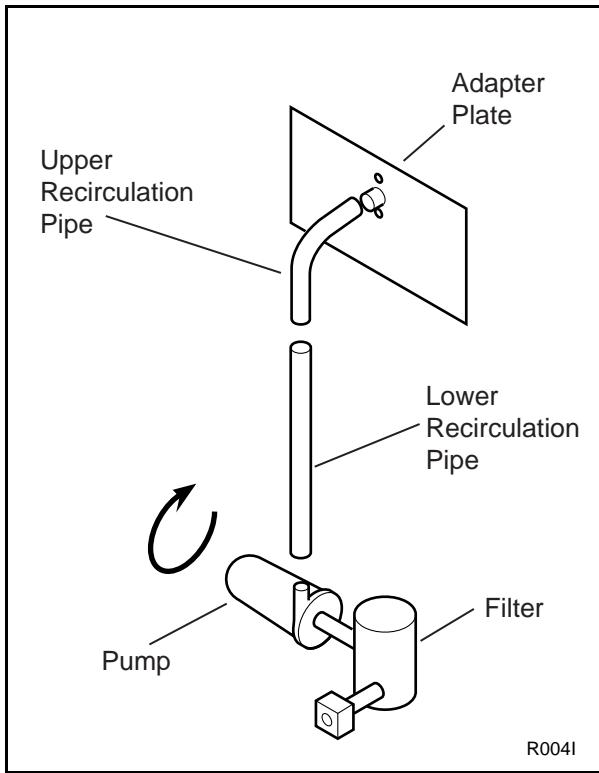

Figure 26
**Note:** If pump motor rotation is incorrect during the control function test, swap any two wires at terminals T1, T2, or T3 of pump contactor. See Figure 26 for correct motor rotation direction.
- Attach upper recirculation pipe to the hose connector at the recirculation adapter plate on the rear of the washer-extractor. See Figure 26.